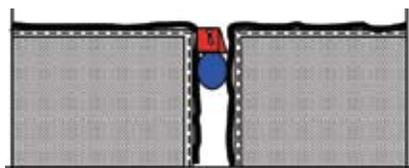
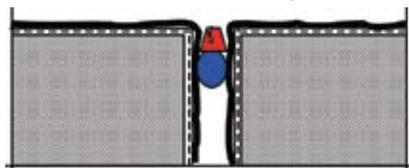

Fig. 1
Fig. 2
1. Slice along the terminating edges of the distressed sealant (Fig. 1) with a sharp scoring knife to separate it from the adjacent EIFS finish or base coat material (Fig 2). Take care not to slice into the EIFS materials.